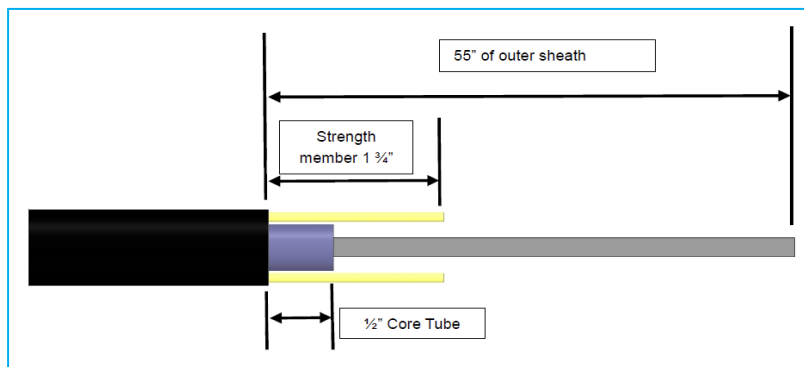

Figure 13
5.2.4.1 Remove **55"** of outer sheath from end of cable. See Figure 13.
5.2.4.2 Cut strength member(s) **1 3/4"** from end of sheath opening. See Figure 13.
5.2.4.3 Remove core tube from ribbon leaving **1/2"** core tube, measured from the cable sheath openings. See Figure 13.